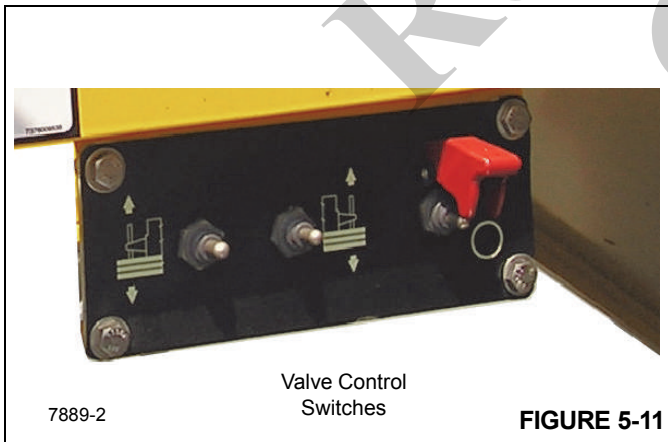

FIGURE 5-11
NOTE: It may be necessary to jog the counterweight removal control valve switches (Figure 5-11) to remove the weight of the counterweight from the counterweight pin assemblies.
3. Using the counterweight removal control valve switches Figure 5-11 and Figure 5-12, raise the counterweight cylinders to relieve weight on the counterweight pin assemblies (the ones holding the removable counterweight to the superstructure).